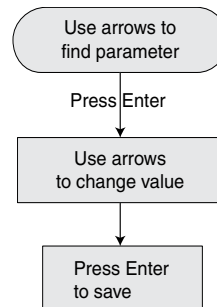

Figure 12 - Changing parameter value.
- Follow the keypress sequence shown in Figure 12: